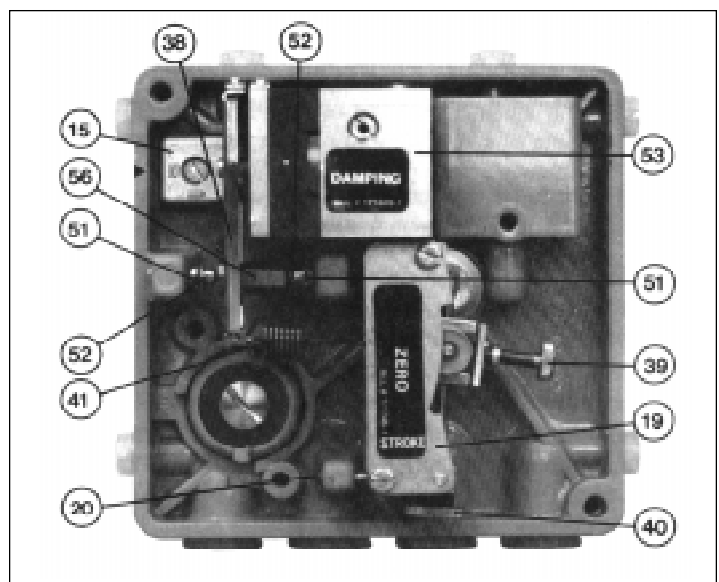

Figure 11
A. Adjustment of the Positioner: (See Figure 11)
1. Unhook the range spring (41) from the flapper lever (38). (See Figure 11.)
2. Unscrew and remove the amplifier (53) sub-assembly; the two amplifier mounting screws are accessible from the rear of the positioner.
3. Install a new amplifier (53). Do not forget the O-rings between the amplifier and the baseplate (BP) (air baffle). Before tightening, carefully align the mounting screws, position the amplifier (53) in such a way that the flappers (52) are concentrically aligned with the nozzles (51).
4. Hook the range spring (41) onto the flapper lever (38).